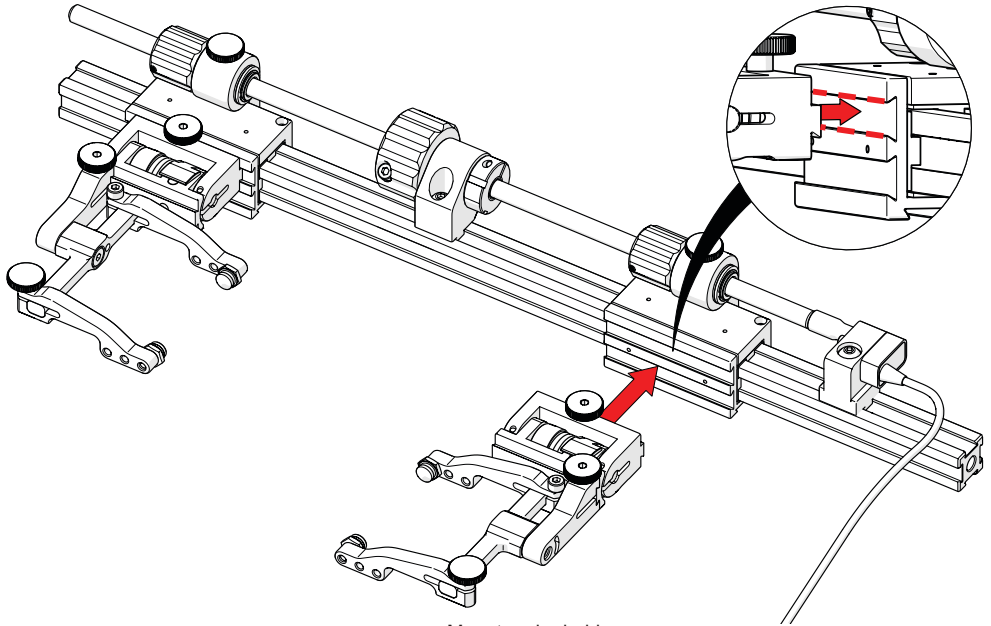

Fig. 30 - Mount probe holders
1. Attach the probe holders (see *Slip Joint Probe Holder* on page 24) to the top groove on the mounting bracket of the slider (Fig. 30).